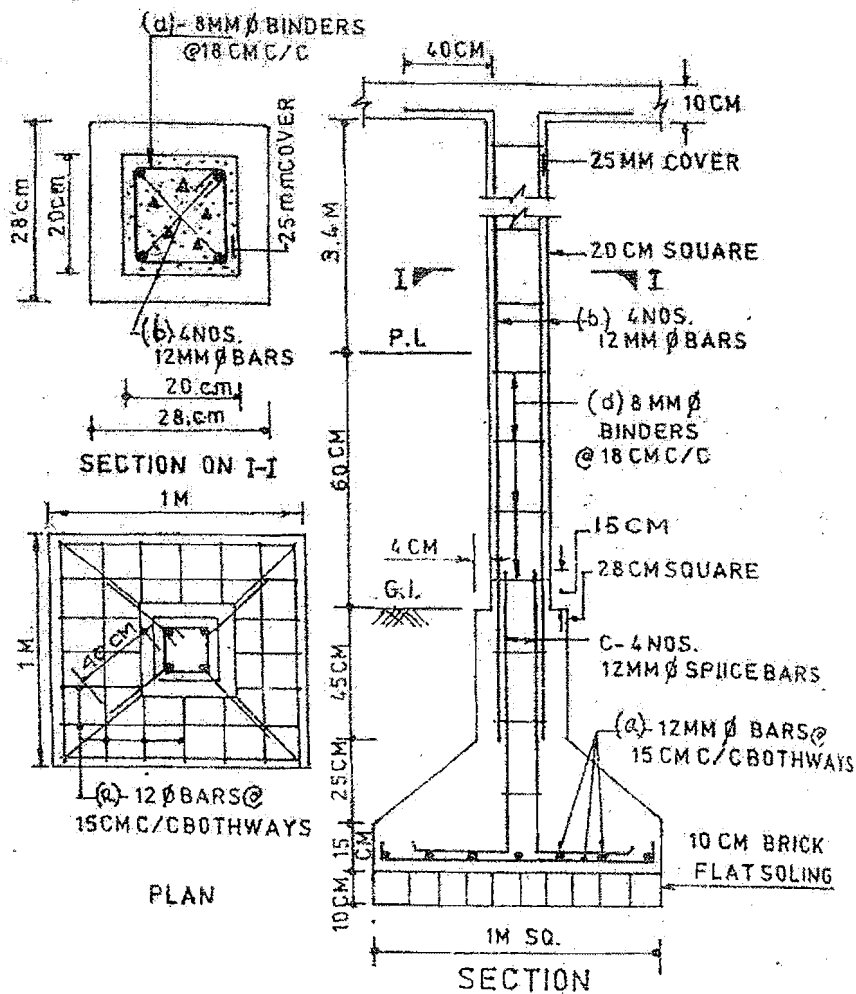

FIG.2
3. Fig.2. work out quantities of steel in R. C. C column.